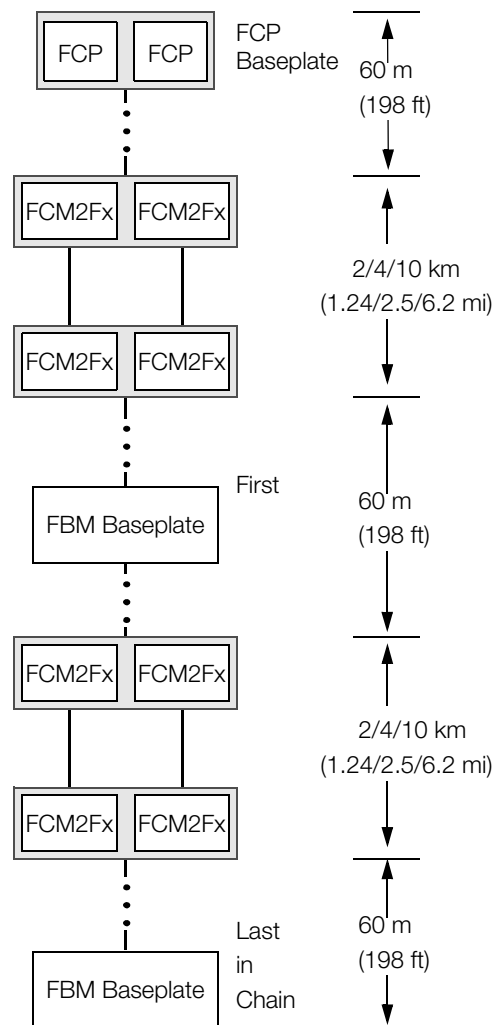

Figure 5. Fieldbus Cable Length Restrictions w/FCM2Fs Between FCP and FBM Baseplates, and Between Baseplates
Each FCP/FCM drives a segment of interconnected baseplates of up to 60 m (198 ft). Up to four pairs of FCM2Fs can be used in a Fieldbus network (see Figure 5).
* 20 km distance is allowed through the use of four pairs of FCM2F10s, as shown in Figure 5 above.